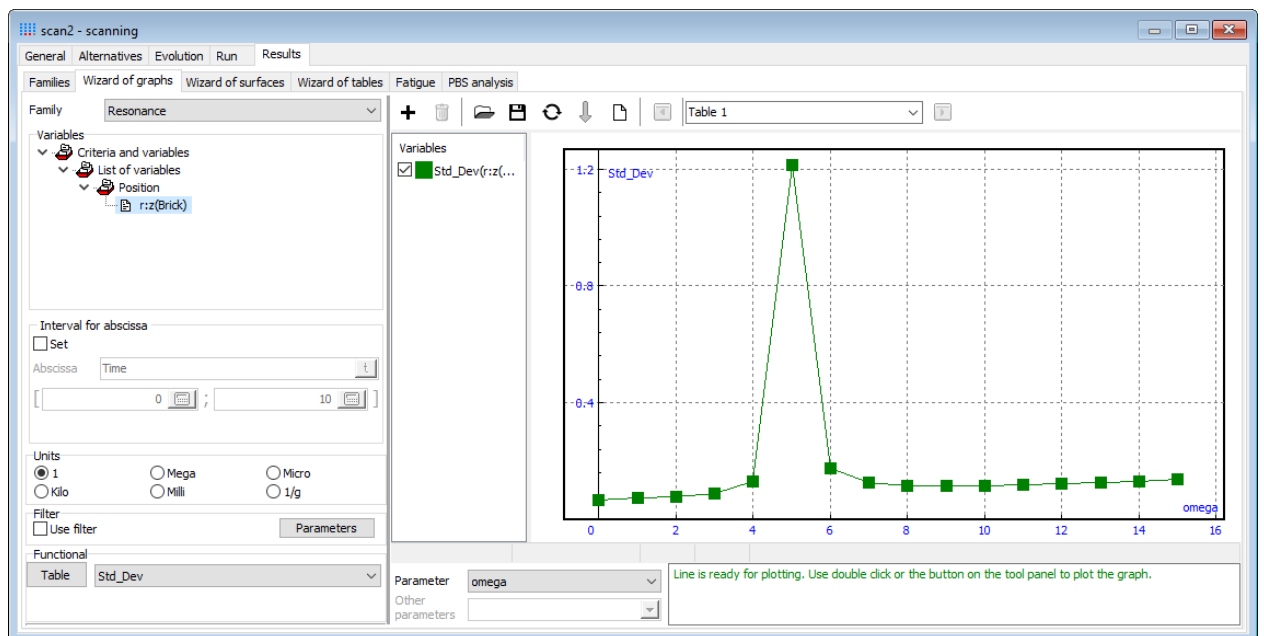

Figure 1.17. Wizard of graphs
The **Wizard of graphs** (see Figure 1.17) is intended for forming dependence between a functional of any calculated variable on any parameter, when other parameters are fixed. Comments in the right bottom corner of the window will help you.
- Choose a family, a variable to be analyzed, functional and parameter for computing dependence, see Figure 1.17.
Let us consider an example, see Figure 1.17. Here we can see the root mean square of the vertical position of the 1 d.o.f. oscillation system in dependence on *omega* parameter. In this case of forced oscillation *omega* means the frequency of the driving force. The resonance case is clearly shown.